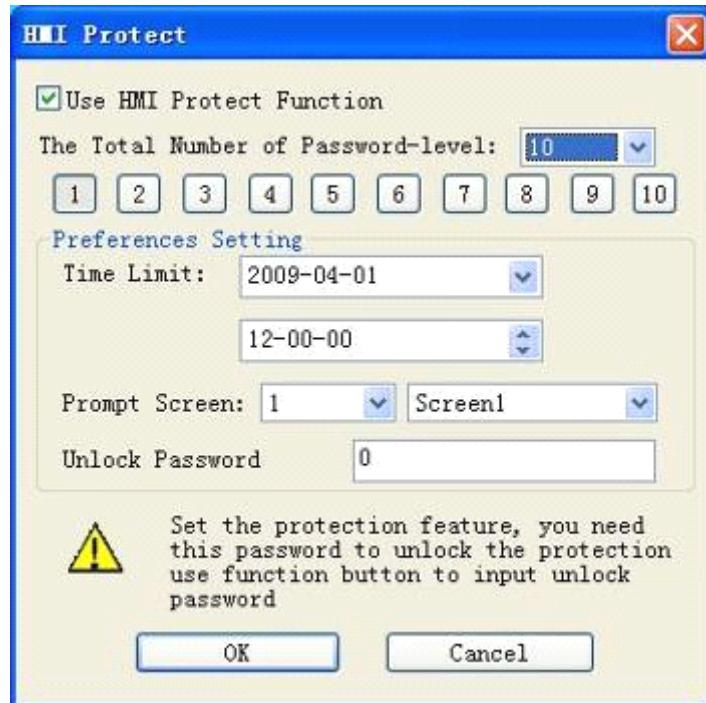

Figure 7-10 Dialog box of HMI protect
- ◆ Double click the option “HMI Protect” in " Project Manager " to pop up the dialog box as shown in figure 7-10.